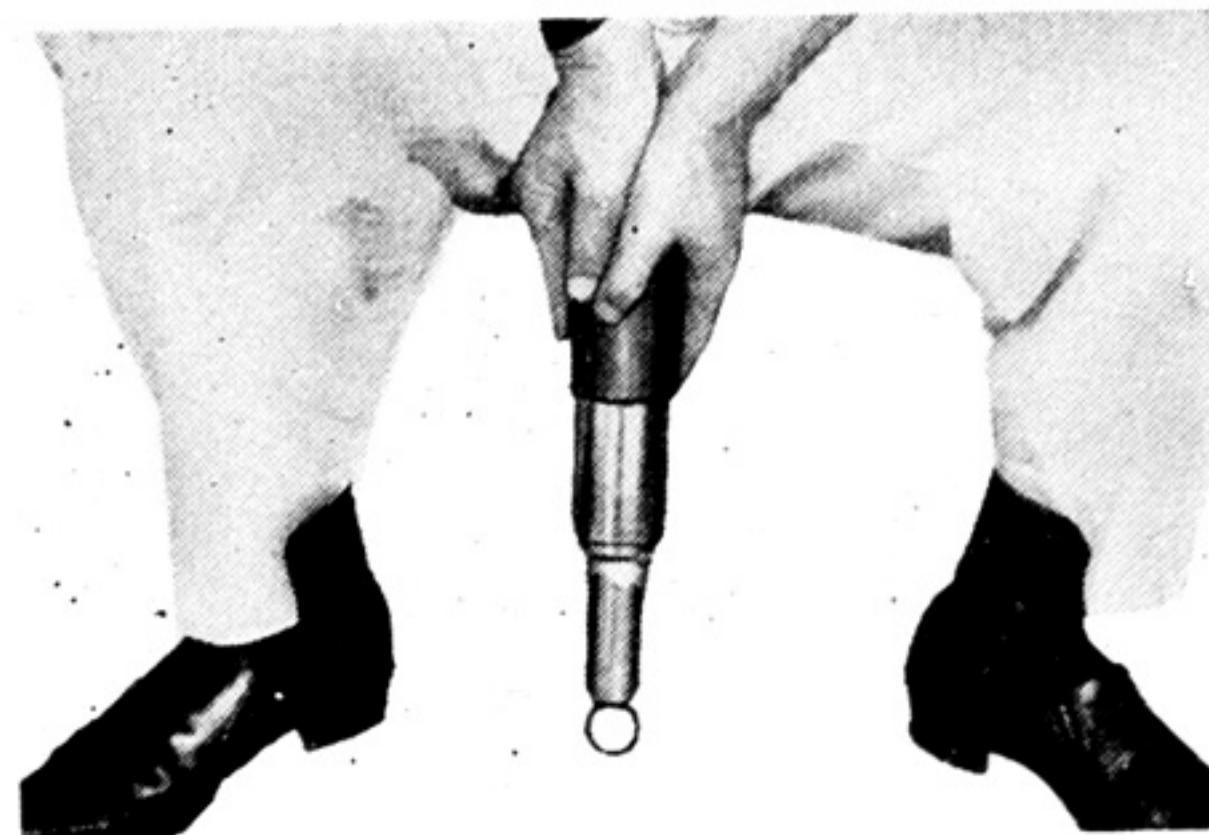

Fig. 4-6-1
- a. Remove the rear cushion, and repeat depressing the cushion a few times. If the spring quickly restores half-way and slowly the last 10 mm, the cushion is in good working condition. If the spring quickly restores all the way, the cushion must be leaky. Replace it with new one. (Fig. 4-6-1)